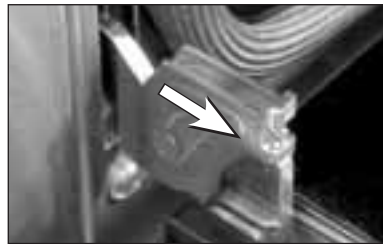

Fig. 23
2. Unlock the door hinges by rotating the lock forward (Fig. 23).